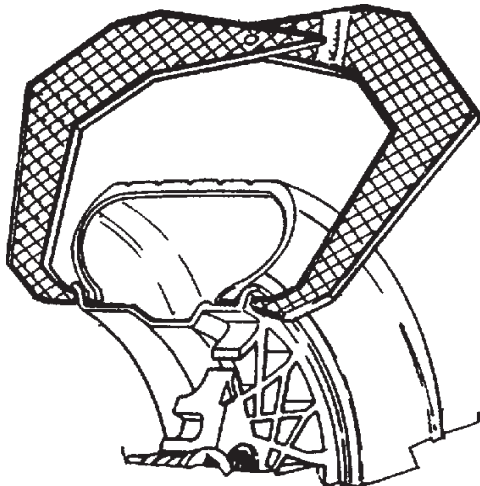

Figure 23
**4.5.2. Measure/Enter rim width** using rim width calipers. Measure wheel where corrective clip-on weight would be applied, Figure 23. Enter the measured width by rotating the shaft until the desired value appears in the center display.